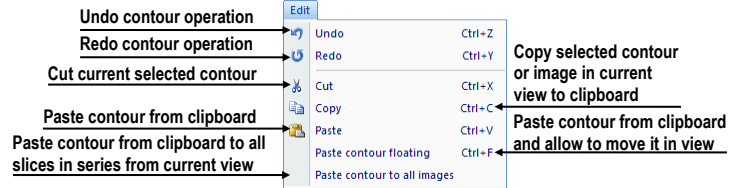

Figure 34 – Edit menu
- **Edit** – the clipboard operations with images in the current view and the selected ROI contour, see Figure 34.